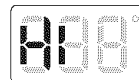

Fig. 1
1. Insert the probe into the thickest part of the meat and place the turkey in the oven - p. 28 Fig 1.